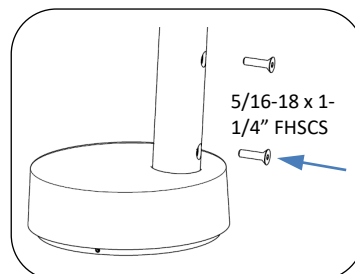

Fig. 6 – Install screws to secure round pole
13. Carefully slide round pole over driver plate. Align two holes in back of pole with holes in driver plate bracket. Secure with (2) 5/16-18 x 1-1/4" flat head socket cap screws, see Fig. 6.